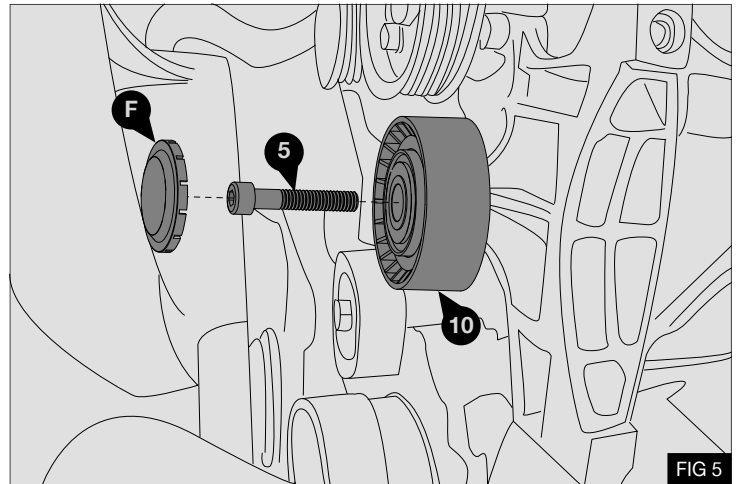

FIG 5
1. Fit the supplied Idle pulley (10) to the original auxiliary mounting bracket using the supplied M8 x 45 bolt (5) - Fig.5
2. Torque bolt (5) 29Nm / 21lb.ft. using a calibrated torque wrench.
3. Fit the supplied idle pulley bearing cover (F)